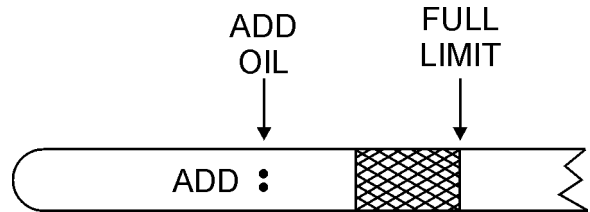

Figure 6. Engine Oil Level
5. Make sure the buggy is level and verify that the oil level is maintained between the two notches (Figure 6) as shown on the dipstick. Reference Table 5 for proper selection of engine oil.